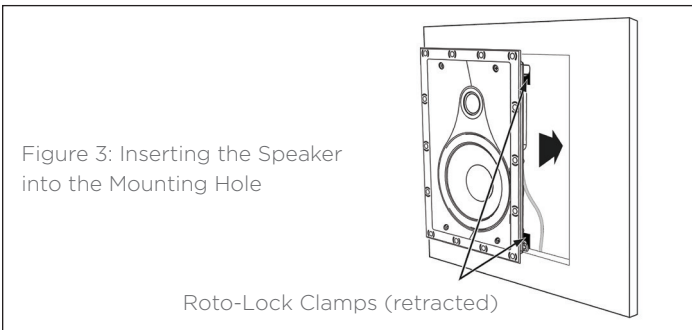

Figure 3: Inserting the Speaker into the Mounting Hole
3. Make sure all the Roto-Lock toggle feet are retracted so that they are tucked within the mounting hole's border. Insert the speaker into the hole in the wall (see Figure 3). The Roto-Lock system can accommodate a wall material thickness of 1-1/4" (32mm) with the toggle foot cap removed the system can accommodate a wall material thickness of 1-7/8" (48mm).